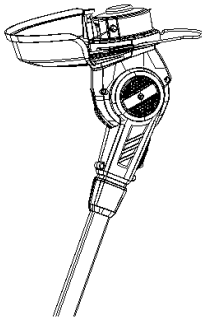
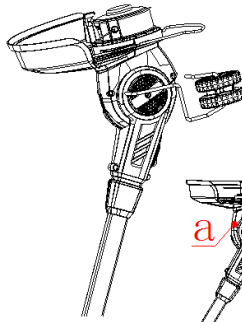

Fig. 8
Fig. 9
1. Align the pins (a, b) of the edge wheel holder to the respective two positions on the tool (fig. 8, fig. 9)